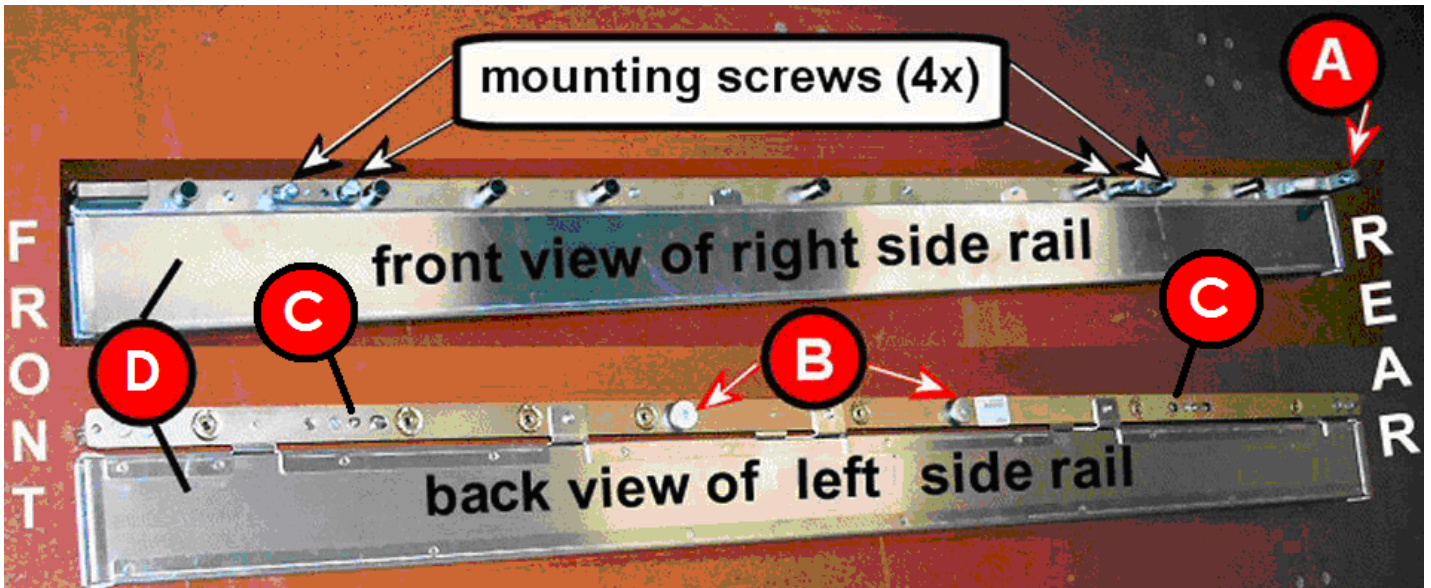

Figure 49: Disk Enclosure Drawer Rails
- STEP 45 Perform STEPS 44,45 and 46 on both the right and left DE rails. Using 3/8in-ratchet handle 23-31 Nm torque clutch P/N 74Y0985, 30cm (12in) socket extension, 5mm hex socket bit (PN 74Y0986), loosen the four rail mounting captive screws (see “A” in Figure 48 and see Figure 49).
- STEP 46 Slide the rail assembly gently towards the front of the Rack to disengage the “mushroom” pins (see “B” in Figure 49).
- STEP 53 Carefully pull SAS cables through the Rail cable channels (see “D” in Figure 49) , towards the front of the Rack.